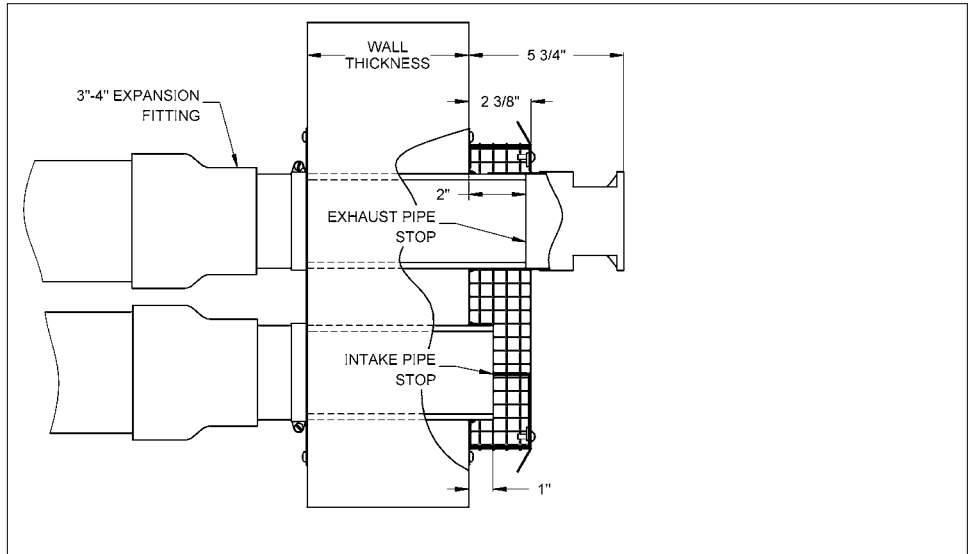

Figure 15: Pipes extend completely through the wall (Vertical orientation shown).
- The SST vent/air connections fit Sched. 40 three inch PVC/CPVC pipe. PPs pipe cannot be used with the SST. The pipes must extend completely through the wall as shown in Figure 15 and immediately inside the wall adapt up to a 4 inch pipe using a standard reducing coupling fitting. Do not use a bushing. The SST is an external fixture, and is not part of the sealed vent system that runs inside the building.